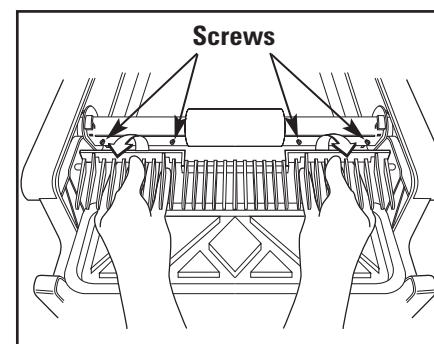

Fig. 12
- Place fingers on underside of the Rake and gently pull the Rake up and out toward Disposable Waste Receptacle Compartment Cover. Notches on Rake bar detach from screws on the rake assembly housing (Fig. 12).
- Gently pull Rake up and out (Fig.12).